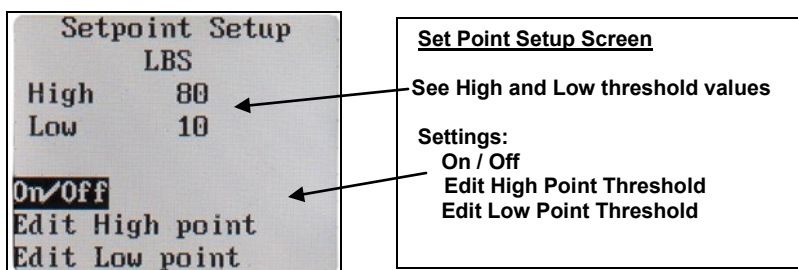

Figure 5
7. **TURNING ON AND ADJUSTING SETPOINT MENU.** Scroll to **SETUP** and press ENTER. Next, scroll to **SETPOINT MENU** and press ENTER. Follow and enter the prompts to turn this feature on or off, as well as to edit your high and low values. *Figure 5*